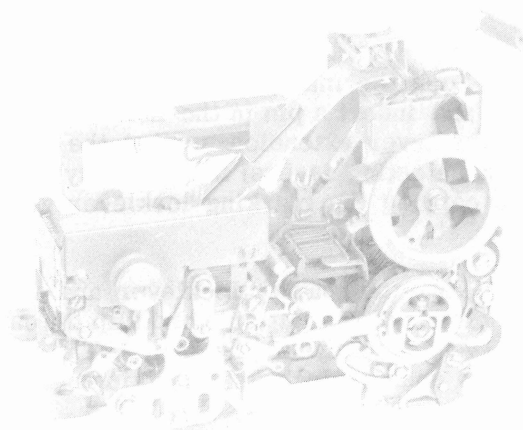

Figure 1 - 37 Nontyping Reperforator Unit
1.01 This section provides disassembly and reassembly instructions for the 37 nontyping reperforator unit (Figure 1).